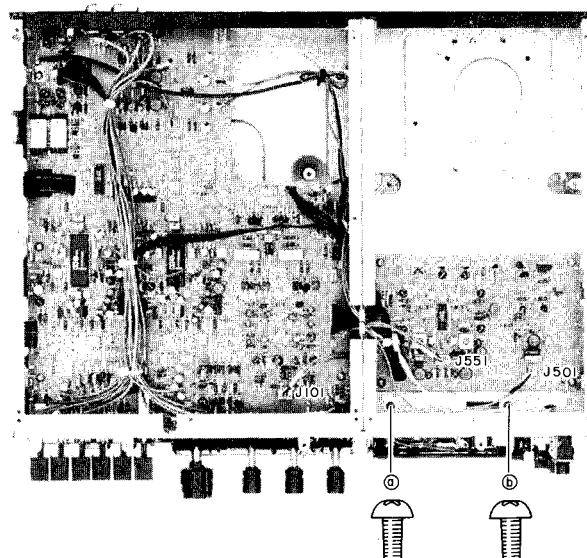

Fig. 4-3
- 1) Remove connector J101 from the PRE AMP PCB and the J501 and J551 from the OSC PCB. Next, remove mechanism block securing screws ④ and ⑤. (See Fig. 4-3.)